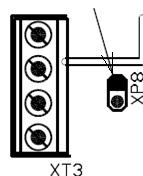

Figure 4
3.4.1.5 Unless the RIP is the first or last device in the RS-485 interface bus, remove the jumper XP8 from the pins located closely to the output bus contacts A and B (see Figure 4).